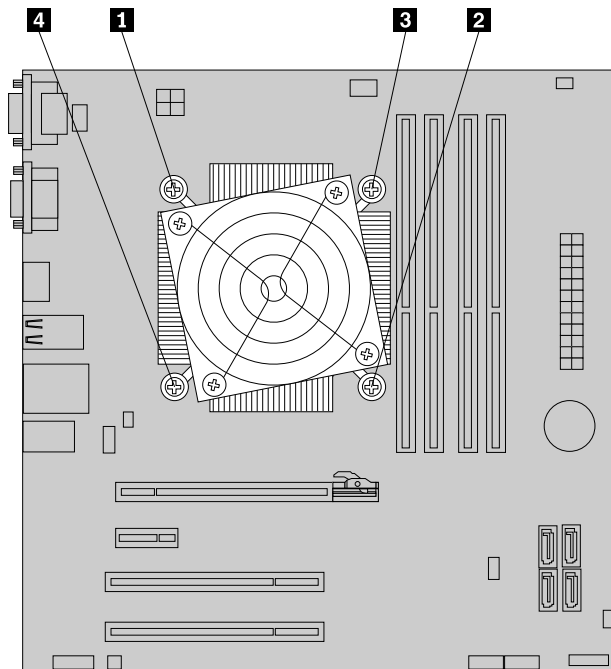

Figure 31. Removing the heat sink and fan assembly
9. Follow this sequence to install the four screws to secure the new heat sink and fan assembly. See Figure 31 “Removing the heat sink and fan assembly” on page 40.